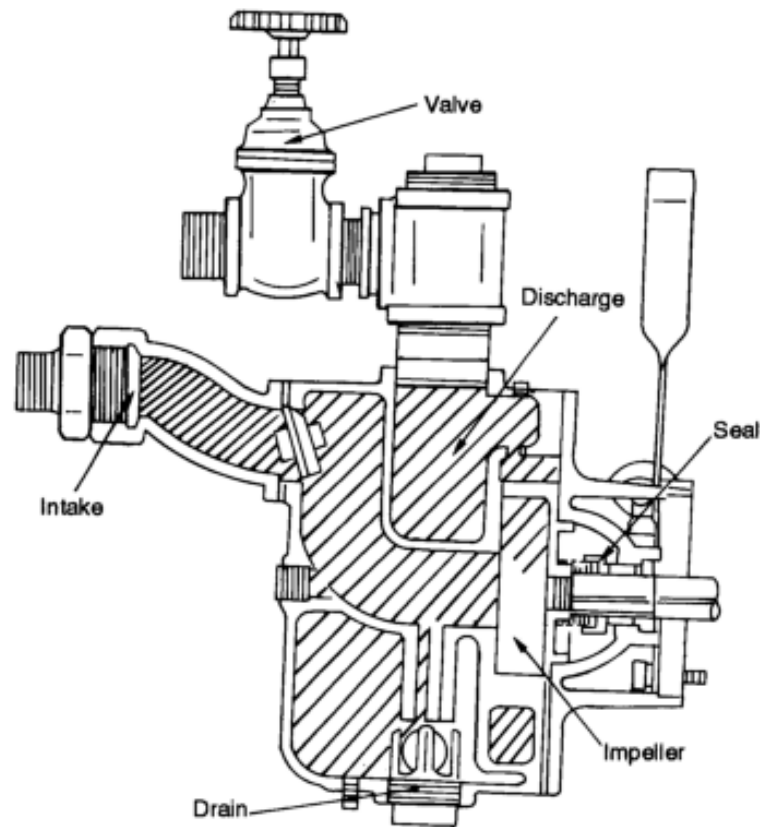

Figure 4-3. Centrifugal pump
c. *Centrifugal Pump*. These are variable displacement pumps in which water flows by the centrifugal force transmitted to the pump in designed channels of a rotating impeller (Figure 4-3). A closed case, with a discharge opening, surrounds the impeller. The case has a spiral-shaped channel for the water. The channel gradually widens towards the outlet opening. As water flows through the channel, speed decreases and pressure increases. The hydraulic characteristics of the pump depend on the dimensions and shape of the water passages of the impeller and the case.